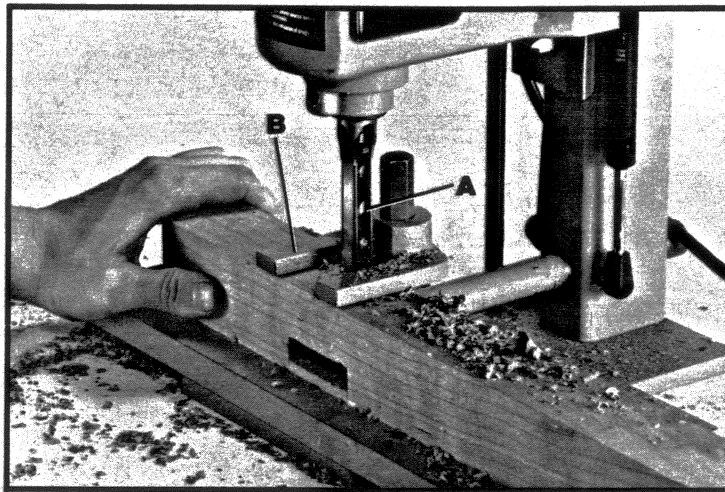

Fig. 26
2. Fig. 26 illustrates a typical mortising operation. Note that the opening (A) in the chisel is to the right. This means that after the first incision is cut, the workpiece should be moved to the left for subsequent cuts. This allows chips to escape freely through the opening in the chisel.
3. Make sure the workpiece is held firmly against the fence when cutting and that the holddown (B) Fig. 26, is properly adjusted. The rate of penetration of the chisel must be fast enough to prevent burning at the tip of the bit, but not too fast as to stall the motor. You may encounter smoke from the bit or material once the chisel has engaged the material. The smoke created is a natural operating occurrence in hollow chisel mortising and is caused by material chip friction and the resins in the stock being burned off. Bluing of the chisel after initial use is not indicative of a dull chisel, but a combination of friction and resin buildup on the cutting faces of the chisel. A dull chisel can be detected by the amount of excess force required to complete a cut.